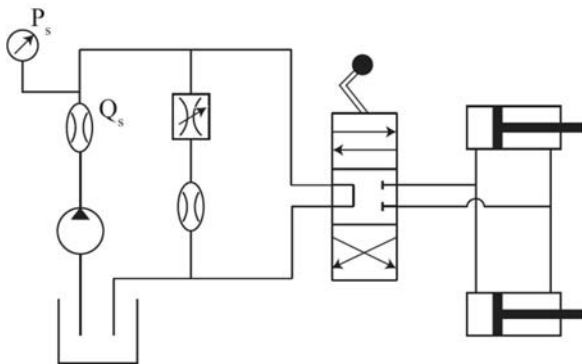

Figure 1
Procedure (Part 1: Figures 1&2)
- Construct the circuit shown in Figure 1